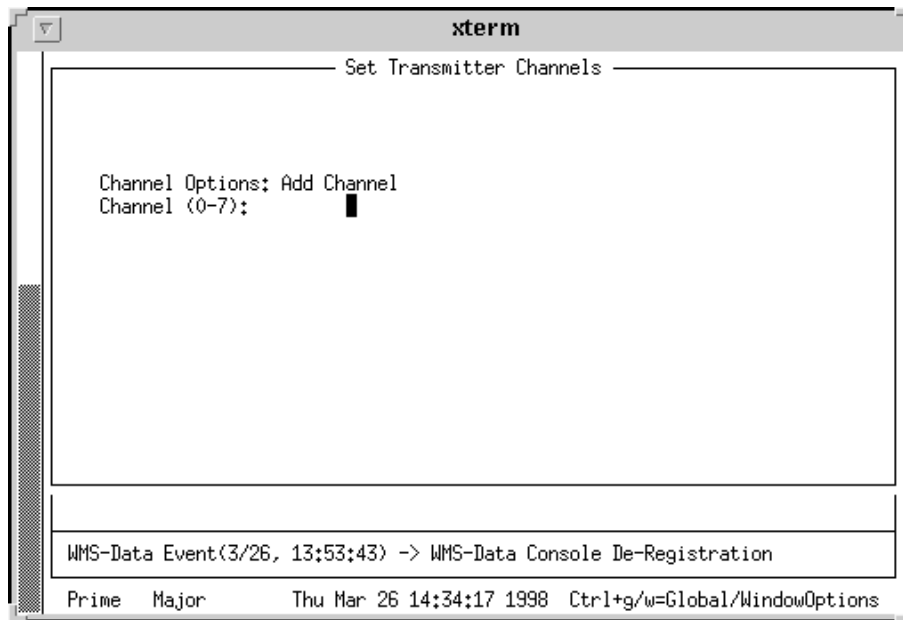

Figure 7-6: Set Transmitter Channels Screen
2. To add a channel, use the <tab> to position the cursor to the left of the listing and press: <Return>. The Set Transmitter Channels screen appears (see Figure 7-6).
4. To delete a channel, use the <tab> to position the cursor to the left of the listing and press: <Return>. The Set Transmitter Channels screen appears (see Figure 7-6).